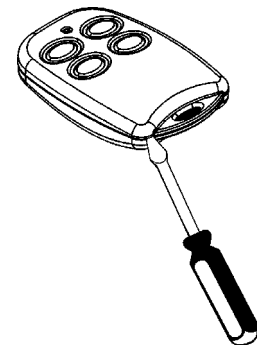

Figure B.12: Opening the KR814's Casing
1. Insert a small screwdriver into the pry-off slot – see *Figure B.12* Carefully twist the screwdriver to separate the front and back of the casing.